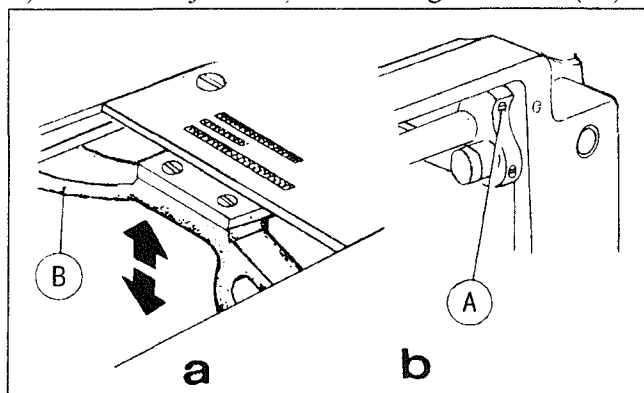

Fig. 22
## 18. ADJUST THE HEIGHT OF FEED DOG ( Fig.22,23 )
- 2) Loosen Screw ( A ) of feed lifting rock shaft crank ( See Fig.22,b )
- 3) Move Feed Bar ( B ) in the direction shown by the arrow in Fig. 22 ( a ) to adjust the height of the feed dog. The standard height of feed dog is that the top of feed dog is 0.8mm above Throat Plate Surface ( B ).